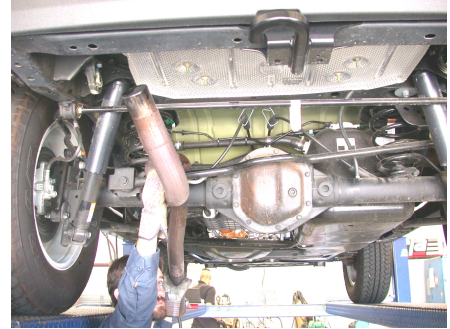

Figure 4
5. Using a muffler stand or an additional person to hold the front pipe assembly in position, remove the hanger from the rubber isolator and remove the front pipe as shown in figure 4 from the vehicle.